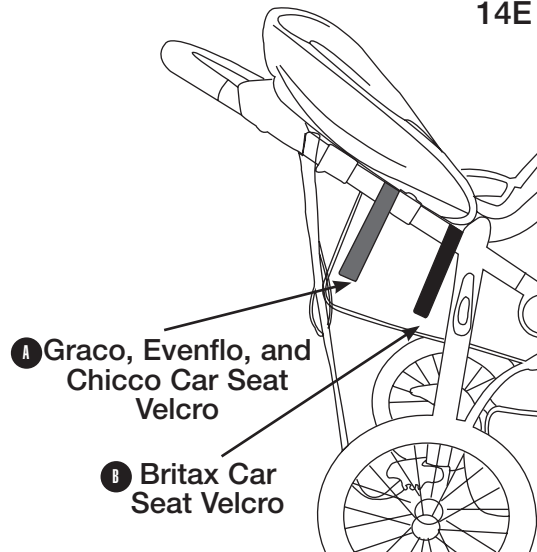

Fig. 14F
4. Final step is to secure the car seat to the stroller using the straps with velcro. (Fig. 14F)